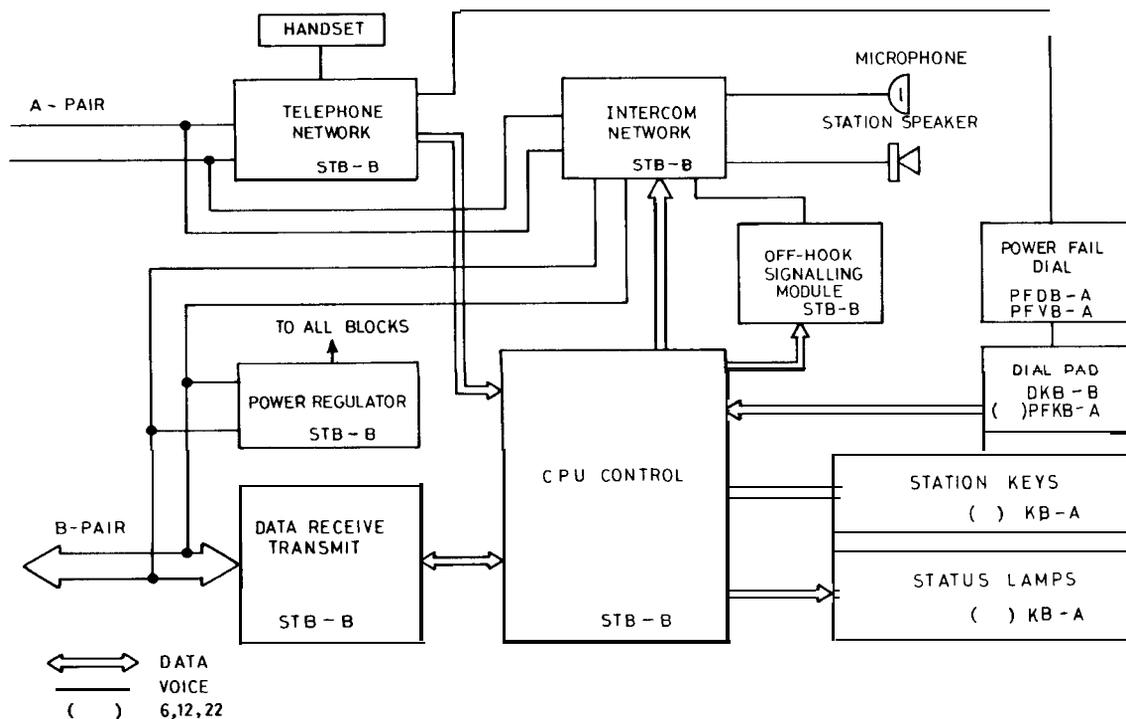

FIGURE 11 STATION BLOCK DIAGRAM
1.4.3.3 Station Block Diagram (Figure 11)